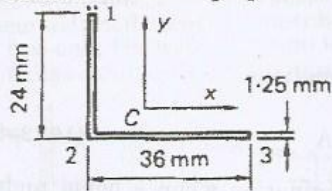

Figure 1
11. a) i) Determine section properties of the angle-section given in Fig. 1. (6)